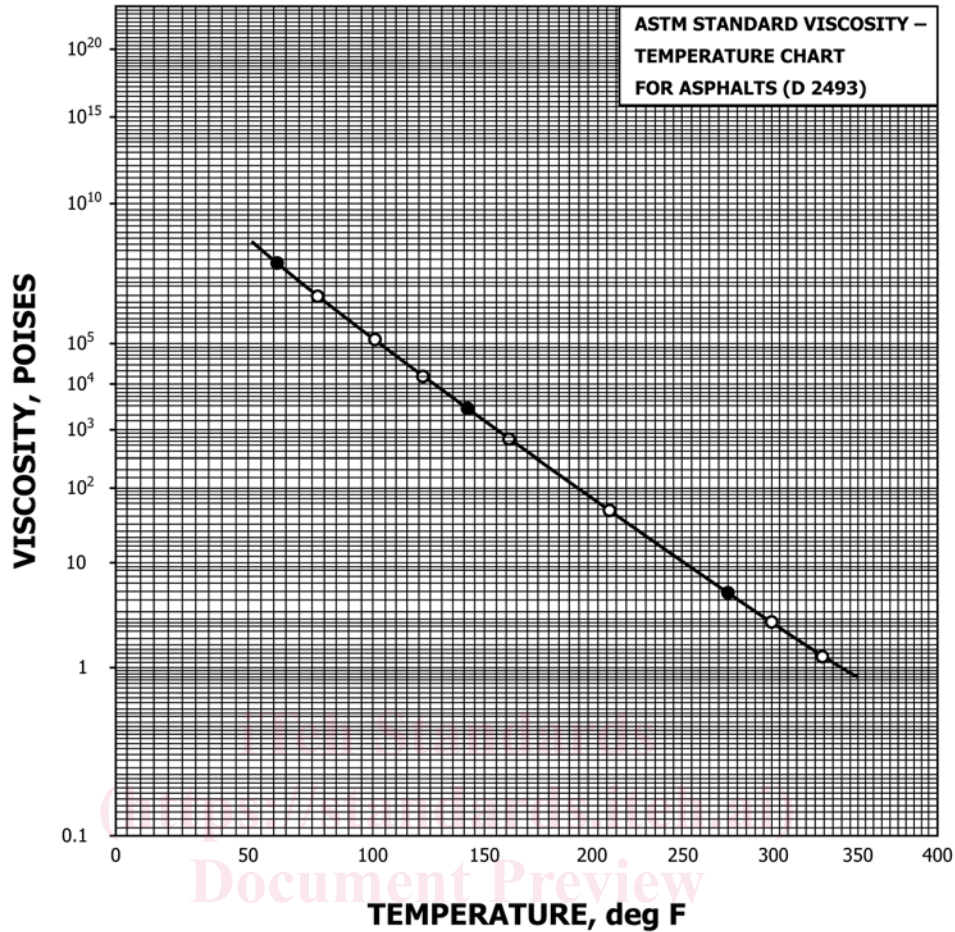

FIG. 1 Viscosity-Temperature Chart for Asphalts on Which a Typical Experimental Curve Has Been Plotted
4.1 For Fig. 1, the chart coordinates are logarithm of the logarithm of the viscosity in mPa.S as the ordinate, and logarithm of the absolute temperature in degrees Kelvin (degrees C + 273.2) as the abscissa. However, the viscosity in Pa.S and the temperature in degrees Celsius is shown in the chart for convenience.
NOTE 2—Some asphalts have viscosity-temperature relationships too complex to be represented by only three points, as shown in Fig. 1. In this case determine the viscosity at sufficient temperatures to produce a curve adequate for the purpose intended.